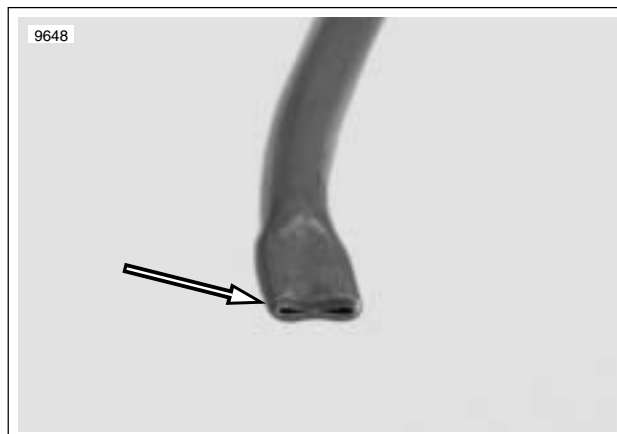

Figure 4-106. Nozzle
2. See Figure 4-106. Flatten one end of copper tube to form a nozzle.